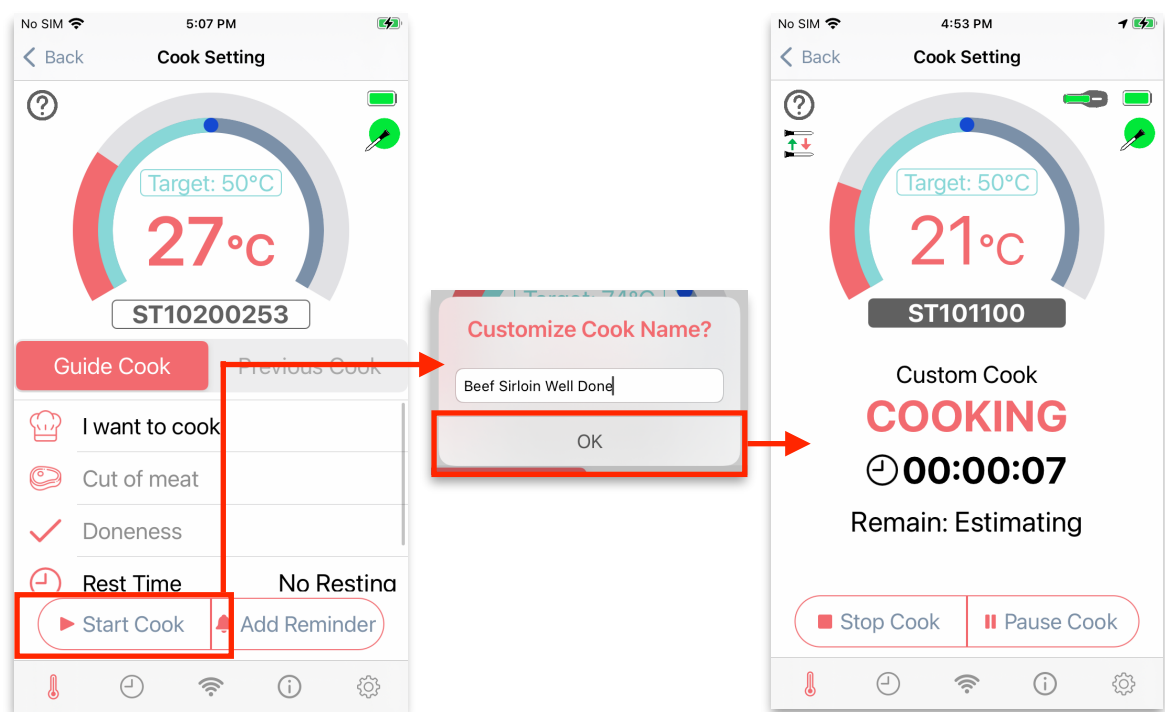

Figure 8. Start Cooking Process
- 10. During cooking. You will see the cooking screen in your mobile phone as shown in Figure 8.